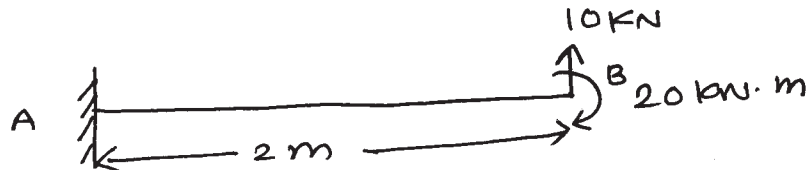

Fig. No. 03.
- a) Calculate the bending moment at 1 m from the fixed end for cantilever beam loaded as shown in Fig. No. 03.